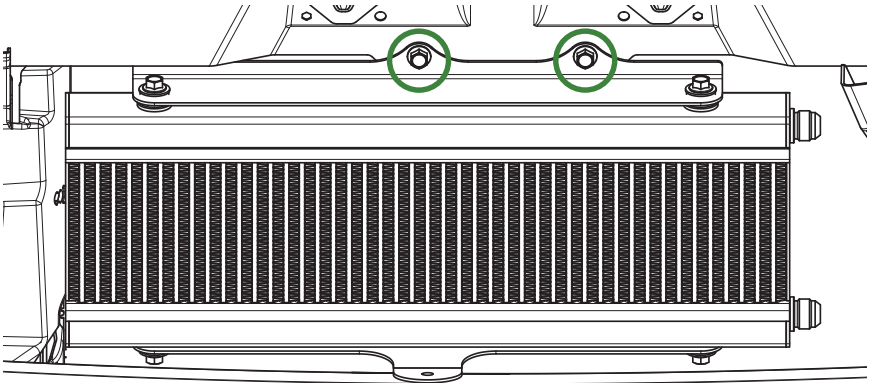

Figure 13 - Securing the MHX-245 & Brackets to the Car
6. Use a 12 mm tool and two HSC-1050 screws from the E5G-600-60 Hardware Kit to secure the top bracket to the vehicle using the two holes circled **green** in Figure 13.